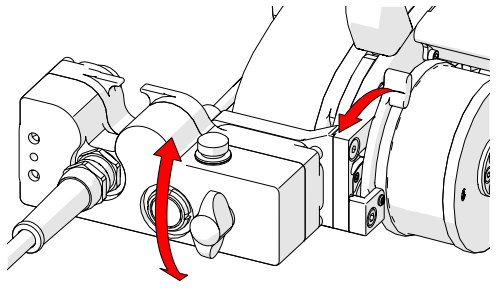
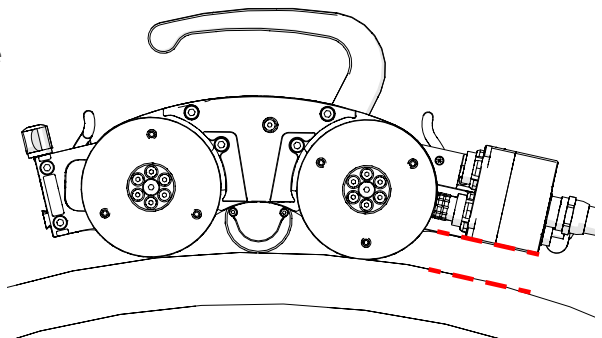

Fig. 126 - Adjust umbilical mount angle
Fig. 127 - Align umbilical parallel to scan surface
7. Unlock the umbilical mount lock lever, align the umbilical parallel to the scan surface (Fig. 127), and lock (Fig. 126).